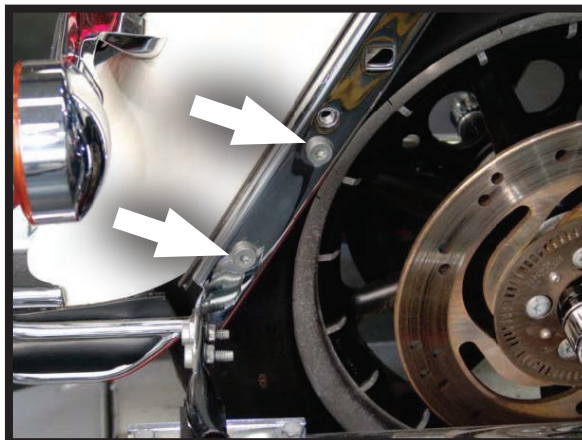

FIGURE 4
3. REMOVE BOTH OF THE FENDER SUPPORT BRACKET BOLTS AS INDICATED BY ARROWS. (FIGURE 4)